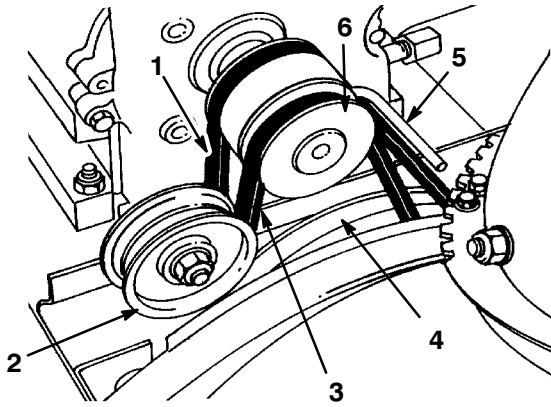

Figure 22
1. Screw (2)
4. Loosen the belt guide (Fig. 22).
5. Remove the auger/impeller drive belt from the engine pulley and the large auger/impeller pulley (Fig. 22).
10. Remove the traction drive belt from the engine pulley and the large traction pulley (Fig. 22).
12. Loop the belt over the engine pulley, making sure that the belt is on the inside of the belt guide (Fig. 22).
17. Install the auger/impeller drive belt around the large auger/impeller pulley and engine pulley, making sure that the belt is on the inside of the idler pulley and belt guide (Fig. 22).
If the auger/impeller drive belt (Fig. 22) becomes worn, stretched, oil-soaked, or otherwise damaged, replace the belt. You can obtain a new belt from your Authorized Service Dealer.
- Loosen the belt guide (Fig. 22).
- Remove the auger/impeller drive belt from the engine pulley and the large auger/impeller pulley (Fig. 22).
- Install a new belt around the large auger/impeller pulley (Fig. 22).
- Loop the belt over the engine pulley, making sure that the belt is on the inside of the idler pulley and the belt guide (Fig. 22).